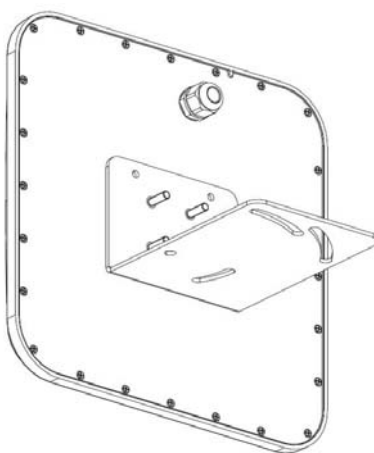

Figure 3-1 L-shaped mounting bracket installation
(1)Align the L-shaped mounting bracket against the screw poles on bottom of reader housing, then install the rubber and screw the M6 nuts, refer to Figure 3-1.